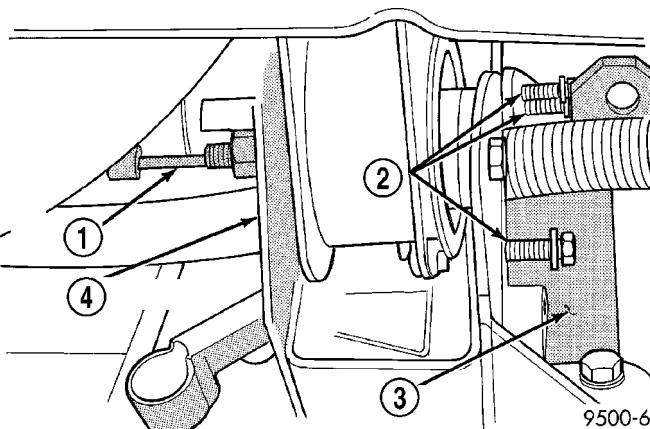

Fig. 6 Starter Bolts
- (5) Disconnect solenoid connector from starter.
- (6) Remove bolts holding starter to transaxle bellhousing (Fig. 6).